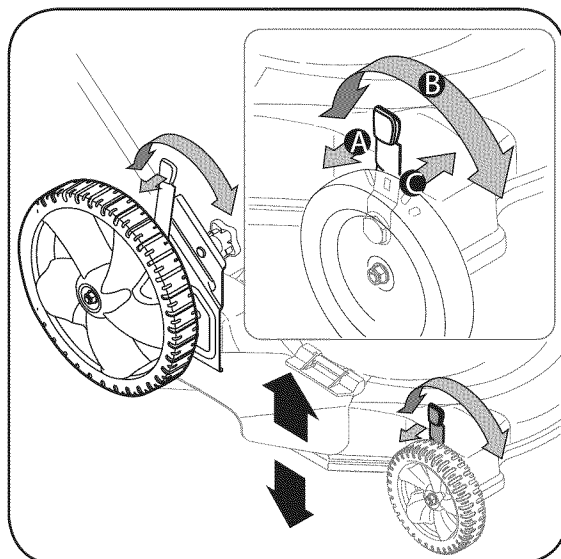

Figure 3-7
- Slide lever to desired position for a change in cutting height. See Figure 3-7.